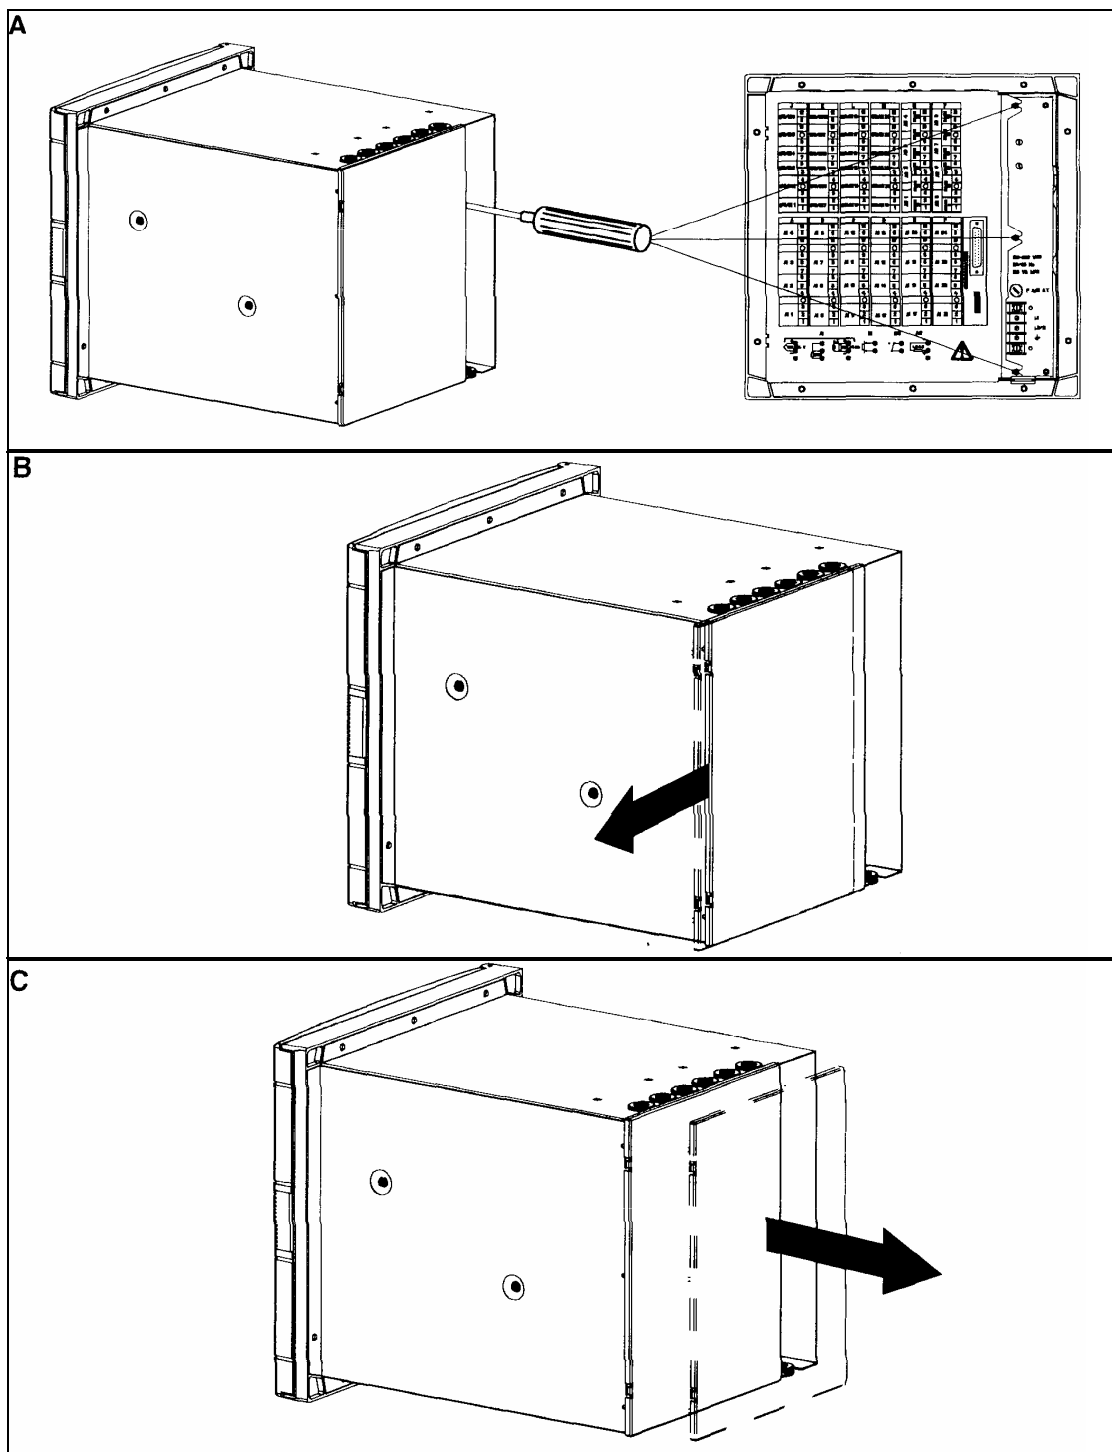

Figure 2-2
6. Unscrew the 3 fixing screws from the rear cover. (See ref. A, Figure 2-2)
7. Remove the rear cover. (See ref. B & C, Figure 2-2)
41. Replace the rear cover. Replace the 3 fixing screws. (See ref. A, Figure 2-2)